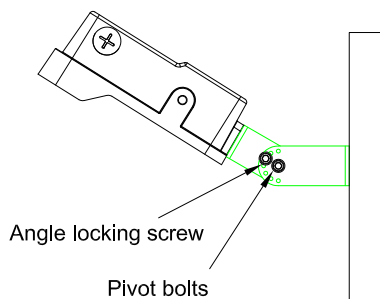

Fig. 4
1. Secure the fixture to wall as shown in Fig. 4.